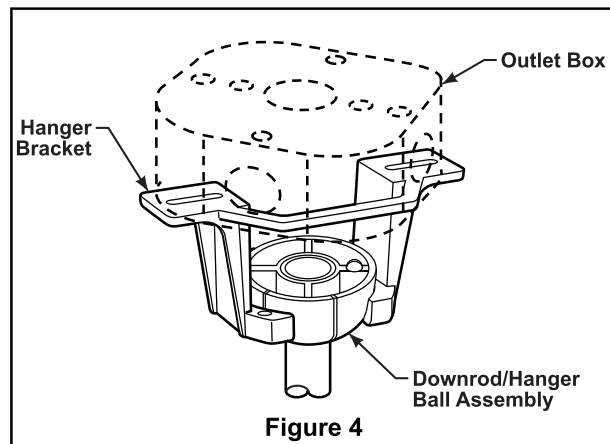

Figure 4
- ☐ Carefully lift the fan and seat the downrod/hanger ball assembly onto the hanger bracket that was just attached to the outlet box. Be sure the groove in the ball is lined up with tab on the hanger bracket. (Figure 4) This fan is intended for standard and angled mounting options only. Closemount and flushmount options are not available. For angled ceilings, note the angle can be no more than 20°.
- After connections have been made, turn leads upward and carefully push leads into the outlet box, with the white and green leads to one side of the box and the black leads to the other side. (Figure 4)